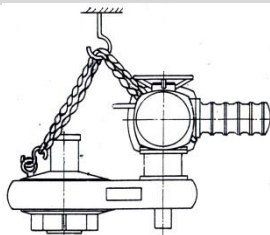

Figure 4.1
- Refer figure 4.1 for general arrangement of the spur gearbox with actuator.
- Lift gently by putting the rope around the actuator and to the eyebolt with the help of hook as shown in the figure 4.1.